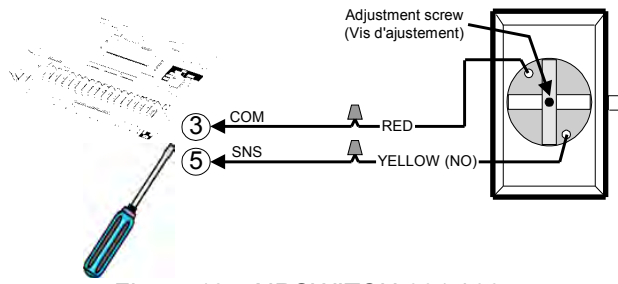
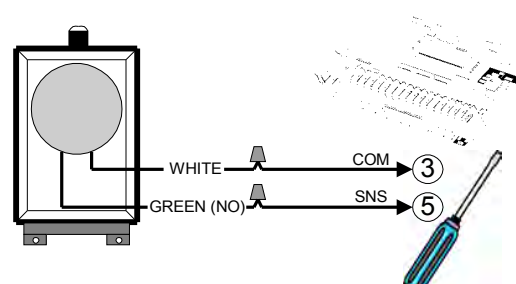

Figure 13 - AIRSWITCH 001 / 007
Figure 14 - AIRSWITCH 009
3. Use a coil cord or take-up reel to connect the air switch to the operator terminals. Install electric wires according to Figure 13 or Figure 14.